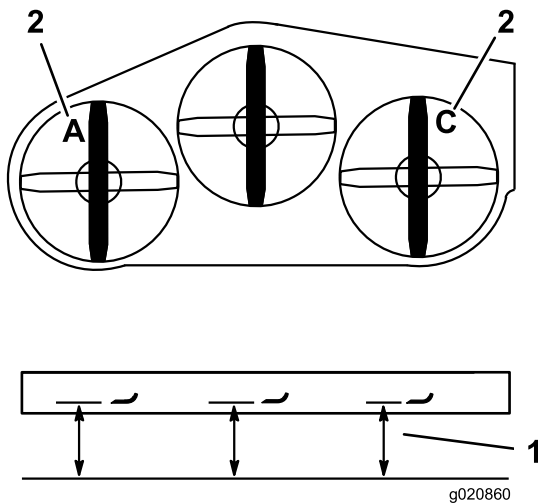

Figure 85
4. Measure the left blade at the **A** location, from a level surface to the cutting edge of the blade tip and record this measurement (Figure 85).
5. Measure the right blade at the **C** location, from a level surface to the cutting edge of the blade tip and record this measurement (Figure 85).
3. Measure the right blade at location **C**, from a level surface to the cutting edge of the blade tip and record this measurement (Figure 85).